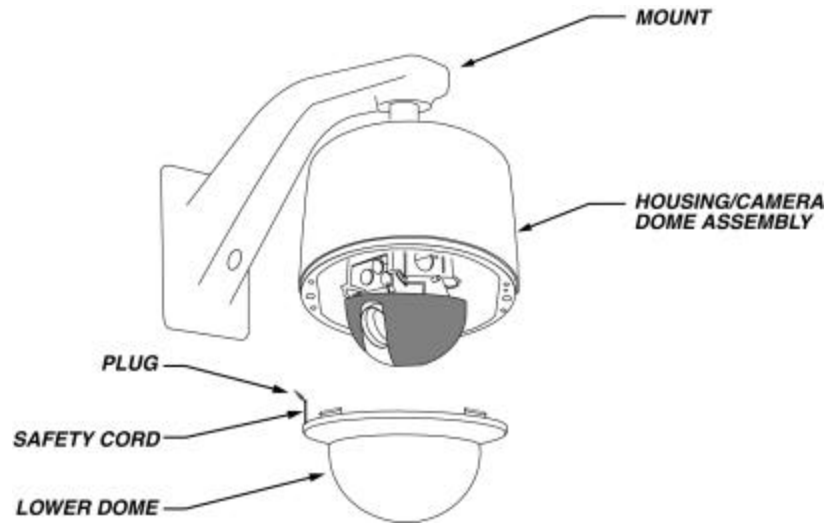

Figure 12
After the camera/lens is properly adjusted, install the mask over the camera/lens and the shroud; the lower dome can now be installed. Lift the lower dome up to the Surveyor2000 and press the safety cord plug into the hole provided on the inside of the enclosure to anchor the lower dome. Holding the lower dome, align the two (2) molded tabs on the lower dome with the recesses on the inner enclosure. Press the lower dome into the Surveyor2000 and verify that it snaps into place on both sides. Refer to Figure 12.
After the camera/lens is properly adjusted, install the mask over the camera/lens and the shroud; the lower dome can now be installed. Lift the lower dome up to the Surveyor2000 and press the safety cord plug into the hole provided on the inside of the enclosure to anchor the lower dome. Holding the lower dome, align the two (2) molded tabs on the lower dome with the recesses on the inner enclosure. Press the lower dome into the Surveyor2000 and verify that it snaps into place on both sides. Tighten the four (4) trim ring screws to hold the lower dome in place. Verify proper orientation of the grommet. Refer to Figure 12.